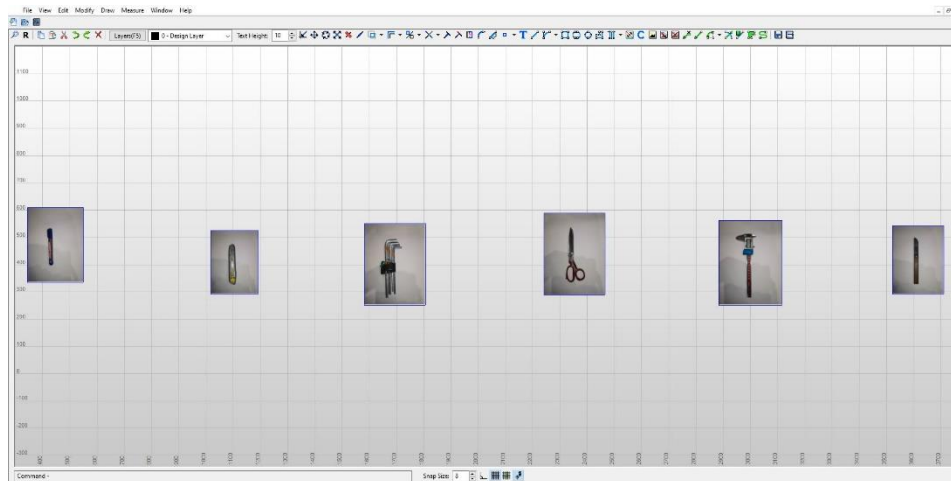

Figure 415
g. Repeat this step to scale the remaining five tools. The result is shown in Figure 415.